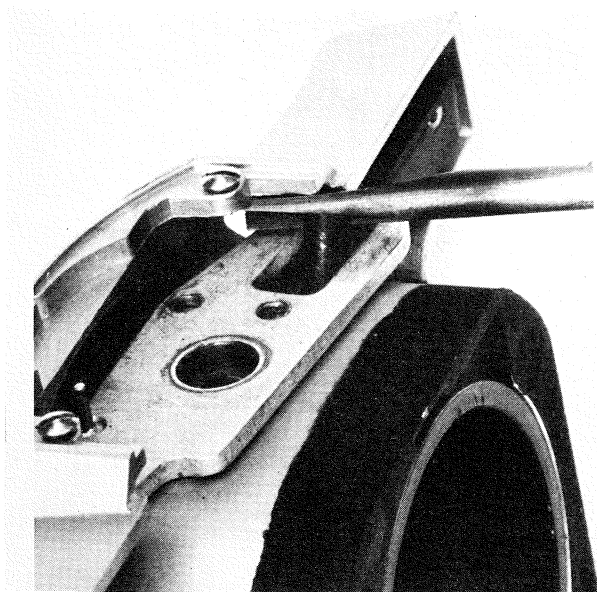

Figure 7. Drive Stud Holding Tool
c. Fit special holding tool (10, figure 1 and figure 7) or small screw driver blade into slot of driving stud (19) and remove the nut (10) and lockwasher (9) with special hex wrench (12, figure 1). On early intermediate models, remove the lens tube shield (8) used with the small actuator (1).
d. The adjusting bracket (11) secured by screws (13) and washers (12) may be removed if necessary.